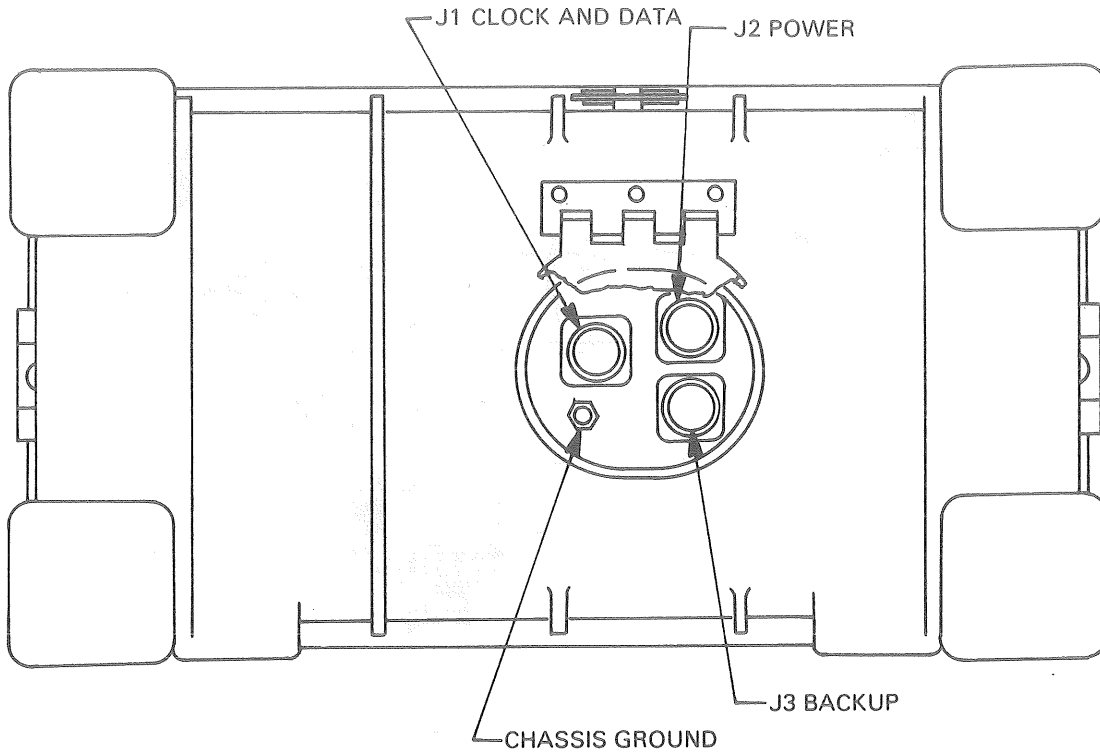

Figure 2. Terminal connectors.
2. Install the plug-in items to the terminal connectors. (Refer to fig 2 and 3, and TM 11-5815-602-12, para 2-7 and 2-9.)
NOTE: The terminal connectors are located at the rear of the case and identified as shown in figure 2. Access to the connectors is gained through the rear panel door. Open the door by pulling the door handle down into the horizontal position and rotating it 1/4 turn to the right. Secure the door in the open (raised) position by unsnapping the retaining strap from the outer case cover and inserting the rear panel door handle into the retaining strap slot as shown in figure 3.